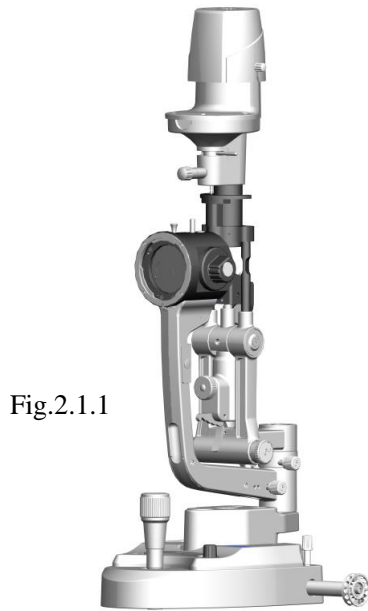

Fig.2.1.1
3. Take out the slit lamp part (Fig.2.1.1), put it on the rails of the metal plate, check whether the wheels can move steadily on the rails. (Fig.2.2.2), place the rail cover to the rail, remove four screws attached to the rail with the screw driver, retighten the previously removed screws. (Fig.2.2.2 and 2.2.3)